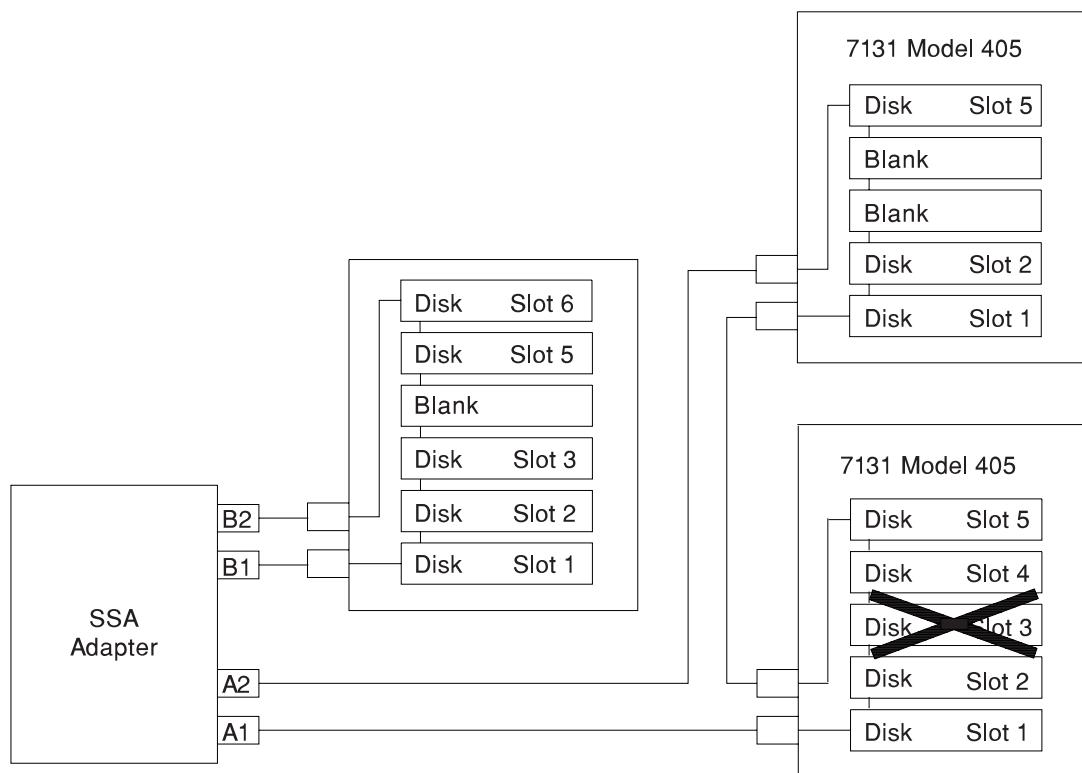

Figure 3-7. Broken Loop (Disk Drive Module Removed)
**Example 3. Broken Loop (Disk Drive Module Removed):** Figure 3-7 shows eight disk drive modules connected to connectors A1 and A2 of the SSA adapter, but the loop is broken because disk drive module in slot 3 has been removed. Four disk drive modules are connected to connectors B1 and B2 of the same SSA adapter.